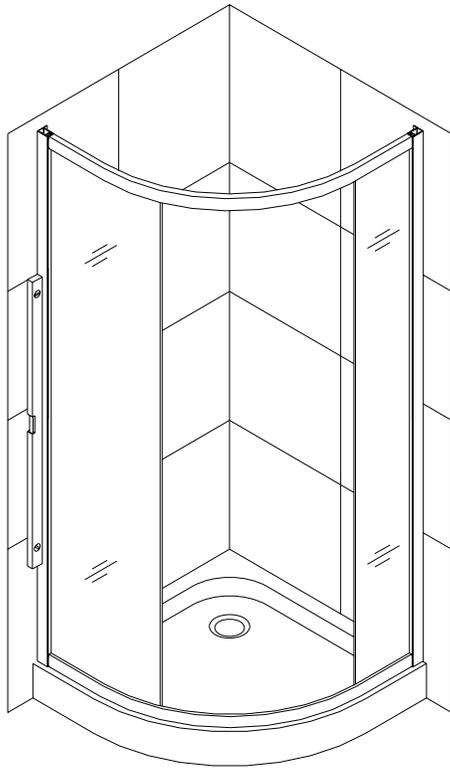

Fig 5
6. Carry the assembled unit on the top of the tray; place it against wall. If your walls are out of plumb you can adjust the position of the shower by pulling the glass profile slightly out of the wall profile. See fig. 5 for details.
7. Now adjust one of wall profiles vertically using level and mark the drill holes on the wall. Using help to hold this profile in the right position; level another profile and mark the drill holes. Gently move the assembled unit on a side, drill the holes, insert the **Wall Anchors (15)**. Place the whole shower assembly on the tray and attach it to the wall using **ST4.2x30 screws (10)**. See fig. 5&6 for details.